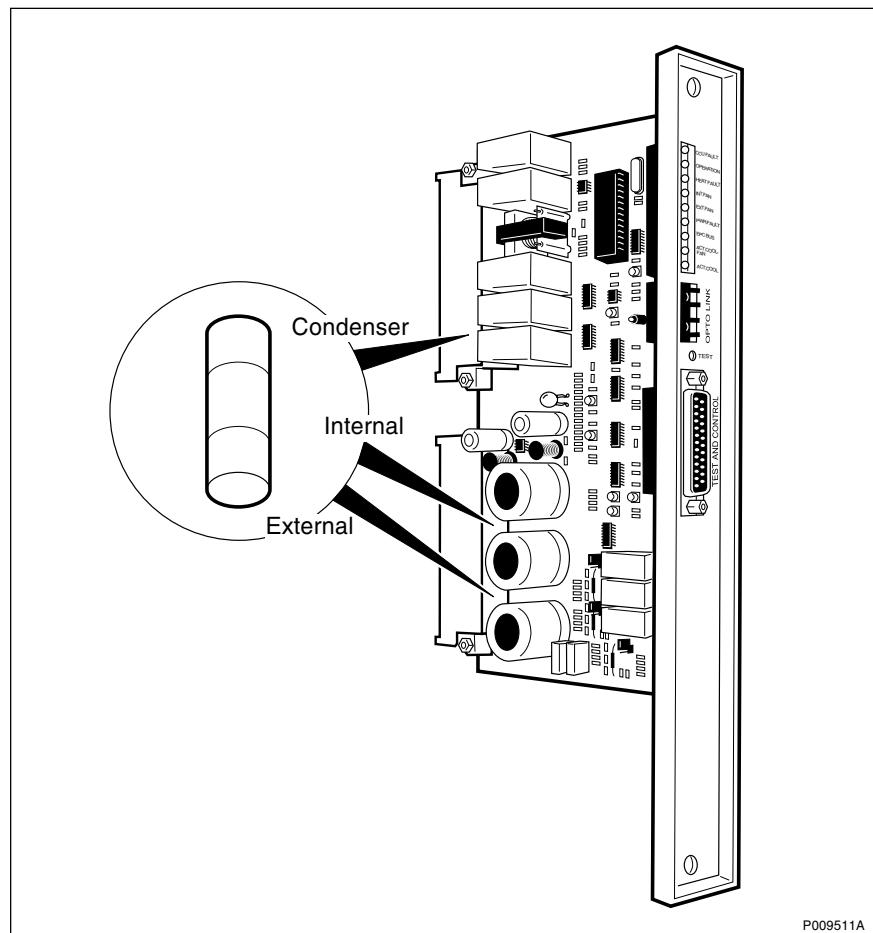

Figure 29 Fuses in the CCU
2. Remove the external fuse and use a multimeter to measure the resistance in the fuse. See *Figure 29* on page 69 .
2. Remove the internal fuse and use a multimeter to measure the resistance in the fuse. See *Figure 29 on page 69*.